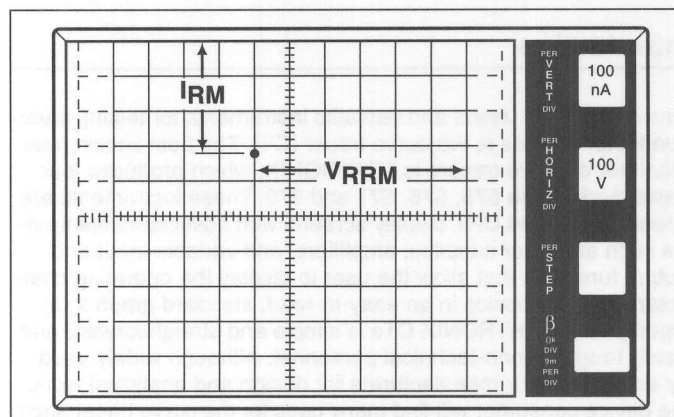

Figure 19.1 I_{RM} is equal to 340nA at V_{RRM} equal to 600
9. Increase *Variable Collector Supply Voltage* to the rated V_{RRM} of the device and observe the dot on the CRT. Read across horizontally from the dot to the vertical current scale. This measured value will be the leakage current. (See Figure 19.1.)